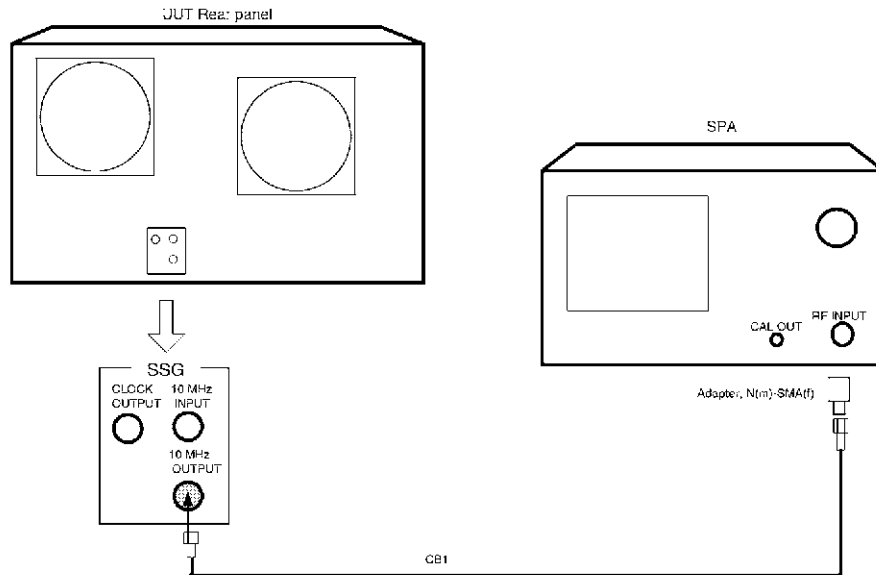

Figure 1-20 Setup of 10 MHz Reference Output Test
1. Connect equipment as shown in Figure 1-20.